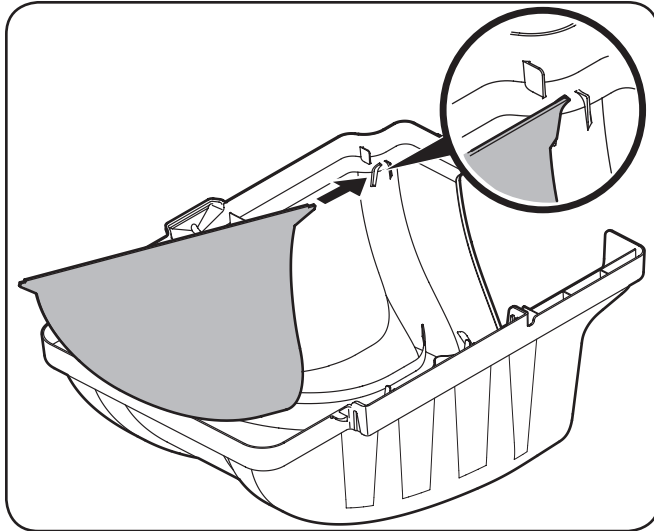
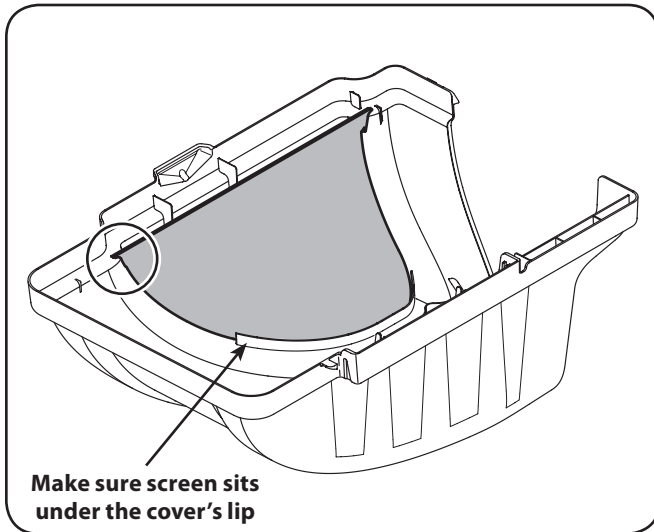

Figure 4-12
Figure 4-13
3. Install the bagger screen into the bagger cover by first inserting the end closest to the side with the cutout into the mounting hole, as in Fig. 4-12. Make sure to feed the screen under the lip, as in Fig. 4-13.
4. Clip in the other side by pushing the screen into the provided cutout. See Fig. 4-13.